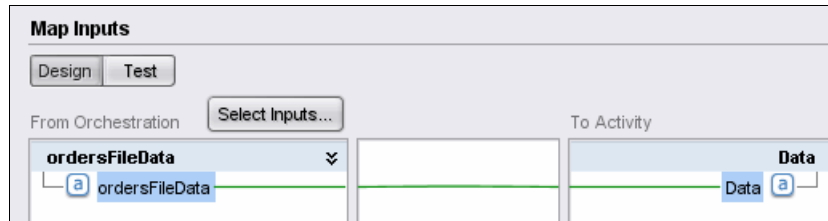

Figure 12-46 Mapping data in the Map Inputs
4. Drag **orderFileData** from the left panel to Data on the right panel, as shown in Figure 12-46.